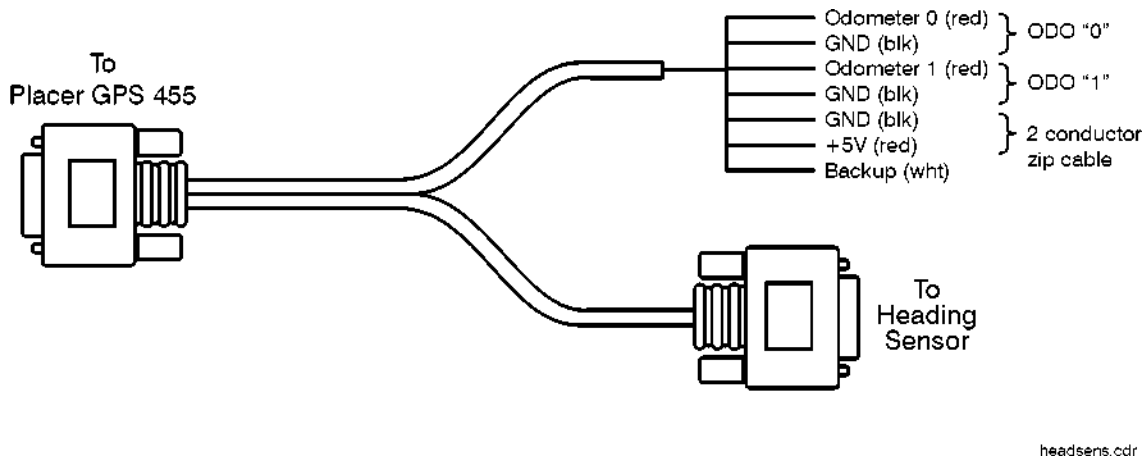

Figure 2-17 Heading Sensor Cable
7. Connect the Heading Sensor to the HS port of the Trimble Placer GPS 455 through the female 9-pin connector on the DR sensor cable supplied by Trimble. See Figure 2-16. The connector labeled Heading Sensor connects to the heading sensor; the connector labeled Sensors connects to the Placer GPS 455. See Figure 2-17.